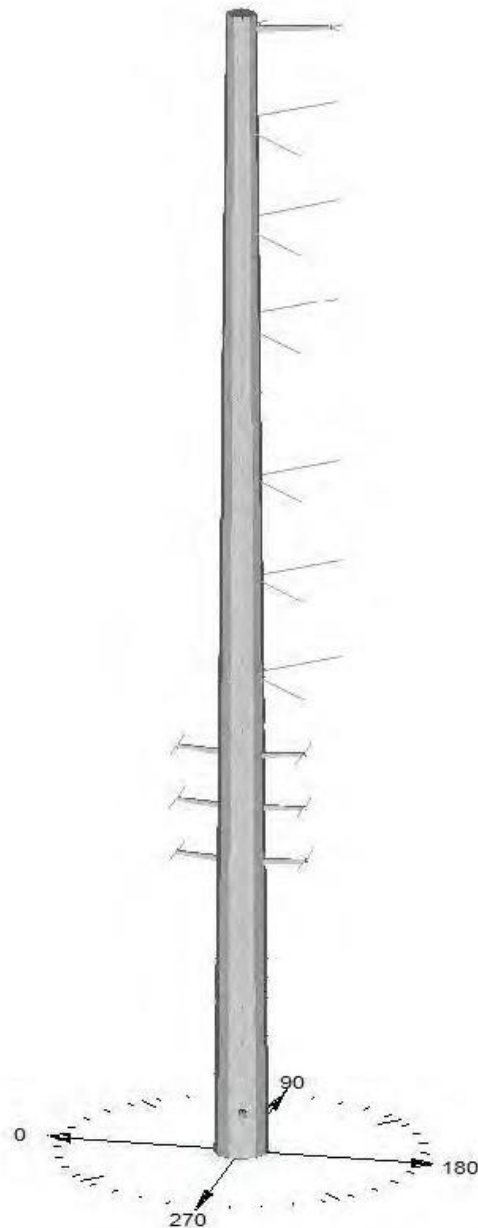

FIGURE G-20
- Figure G-20: Double-Circuit 230 kV Tubular Steel Structure (Pole) with 69 kV Underbuild, Two-Pole Configuration, Strain Structure